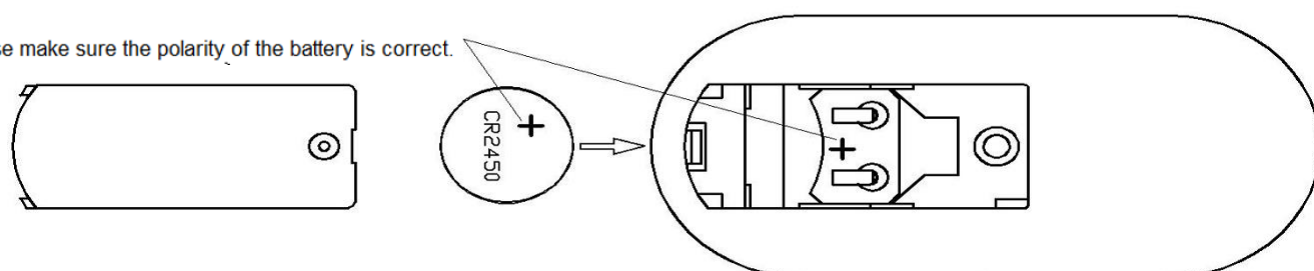

Fig. 8
Install the 3V CR2450 DC battery into the remote. Please make sure the polarity of the battery is correct. (Fig. 8)
- Install the battery into the remote. Please make sure the polarity of the battery is correct. (Fig.8)